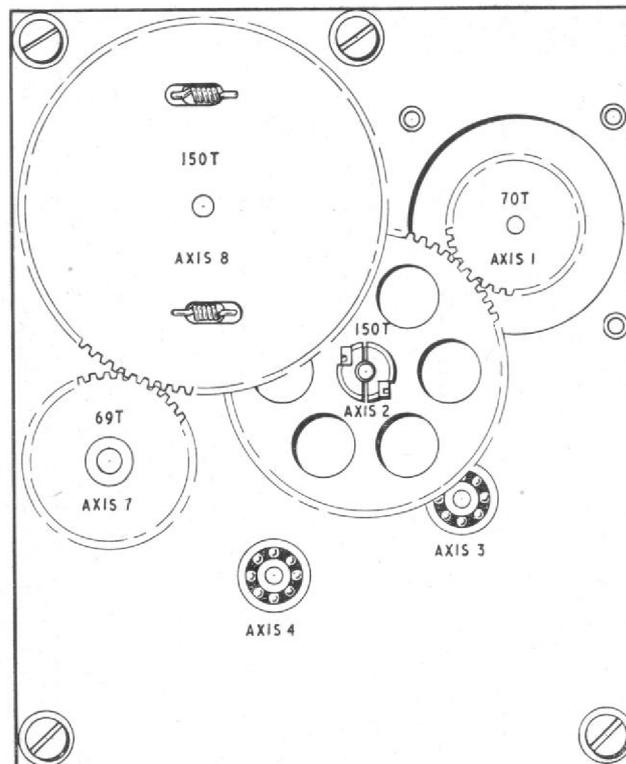

Fig. 9. Vertical speed gearbox (G4)—underside
76. Check that when the 150T gear of axis 2 (fig. 9) is displaced one turn against the servo action and released it makes one overshoot in each direction only before becoming stationary. If necessary RV1 (Chap. 7, fig. 23) should be adjusted to achieve this condition.